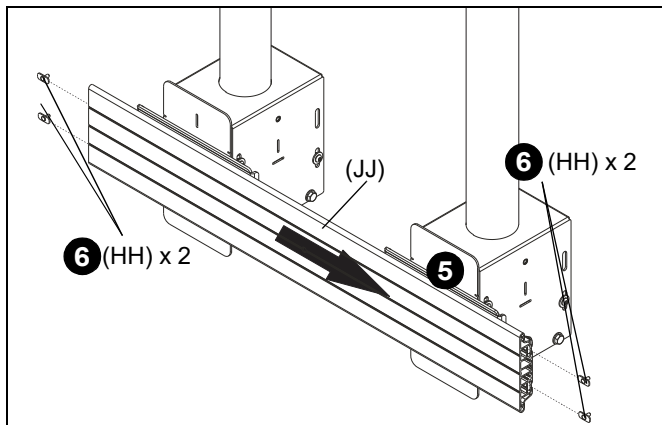

Figure 5
5. Slide X-large rail (JJ) onto second assembly (J) attached to column. (See Figure 5)
6. Slide two wind shield connectors (HH) into back grooves on X-large rail (JJ) on both sides. (See Figure 5)